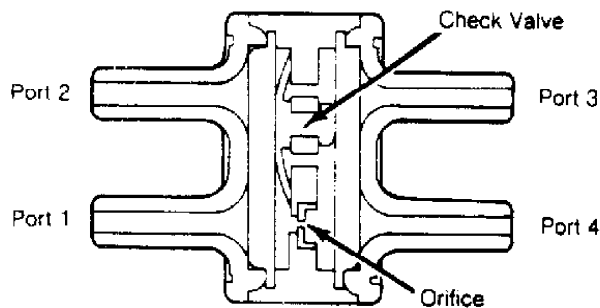

Fig. 2: Vacuum Spark Control Delay Valve
1) Connect "T" fitting at ports "1" and "4". Connect vacuum gauge to each fitting. Start engine. Vacuum should be equal at both ports. See Fig. 2.